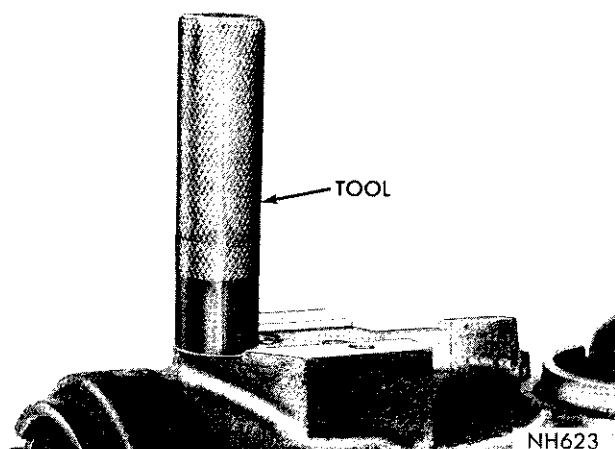
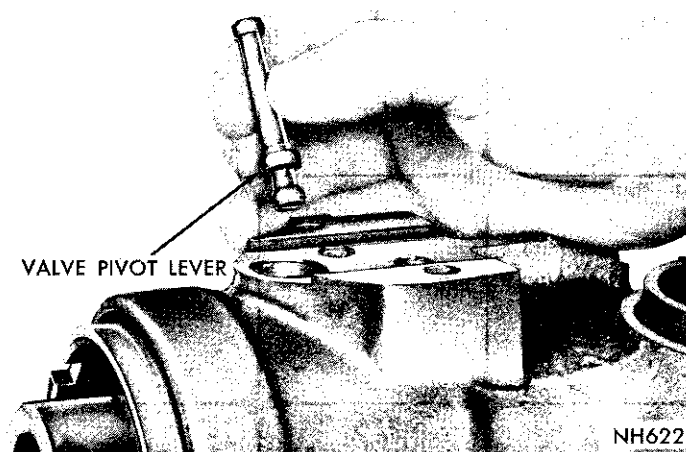

Fig. 24—Aligning Center Bearing Spacer with Steering Valve
Fig. 25—Installing Valve Pivot Lever
(53) Align valve lever hole in center bearing race and spacer exactly with the valve lever hole in the gear housing. Turn the housing head by tapping on a reinforcing rib with hammer and drift. Use Tool C-3649 to maintain alignment (Fig. 24). **The aligning tool should not be removed until the spanner nut is securely tightened.**
(54) Install housing head tang washer to index with groove in housing. Install spanner nut and tighten to 110 to 200 foot-pounds with Tool C-3634.
(55) Set the power piston at the center of travel and install gear shaft and cover assembly so that sector teeth index with piston rack teeth. Make sure cover "O" ring is properly installed on shelf in housing.
(56) Install cover spanner nut and tighten 110 to 200 foot-pounds with Tool C-3988.
(57) Install valve pivot lever (double bearing end first) (Fig. 25) into center race and spacer through hole in steering housing so that slots in valve lever are parallel to wormshaft in order to engage the anti-rotation pin in center race. Install valve pivot lever spring small end first.